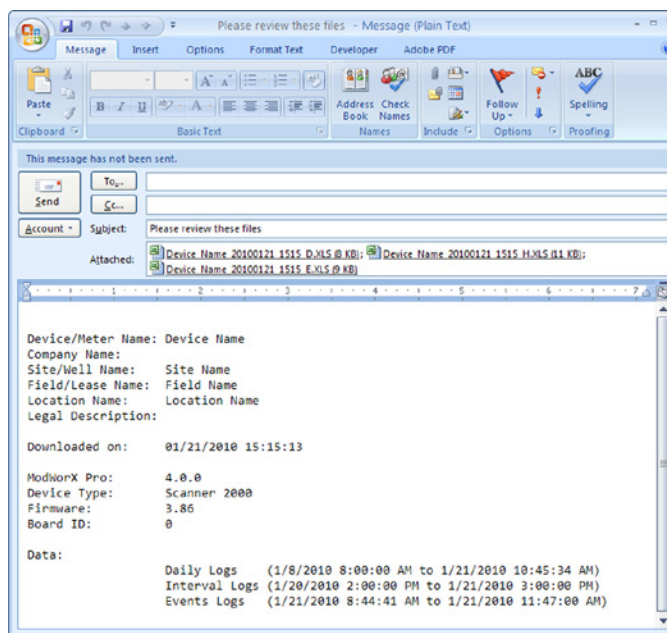

Figure 14.32
- Click **OK** to export the data to the file. The file will automatically be attached to an email window (Figure 14.32).